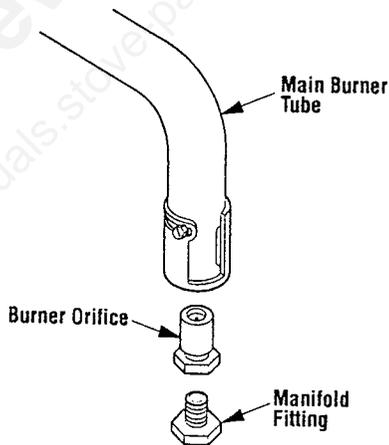

Figure 30
To derate this unit, order and install the appropriate high altitude orifice kit per the following chart. Remove two (2) Phillips head screws securing the burner brackets to the base of the appliance firebox. Lift and remove the burner. Remove the orifice (Figure 30) and replace with the appropriate one from the kit. Refer to the following chart. Be sure to attach the conversion sticker provided with the kit to the rating plate on the appliance.
Step 6. Remove and replace the burner orifice (refer to Figure 30). Use #39 for natural and #54 for propane.